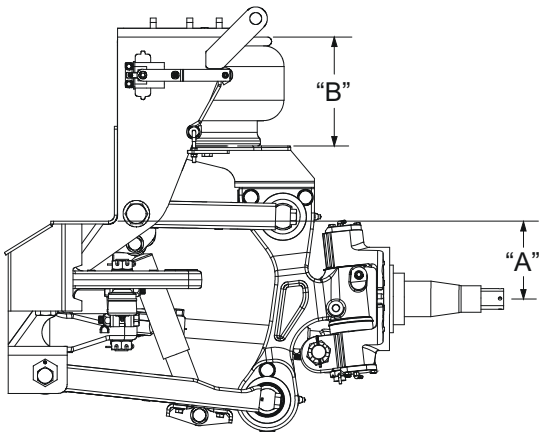

Figure 11 – Measurement at Ride Height
The ride height of the front suspension is the distance from the bottom of the chassis frame rail to the center of the wheel spindle. An alternate measurement may be taken as the height of the air spring (See **Figure 11**).
4. Measure either the wheel center to bottom of frame ("A") or air spring height ("B"). If the dimensions are not within $\pm 1/8$ " of measurements in **Figure 11**, adjust as follows.